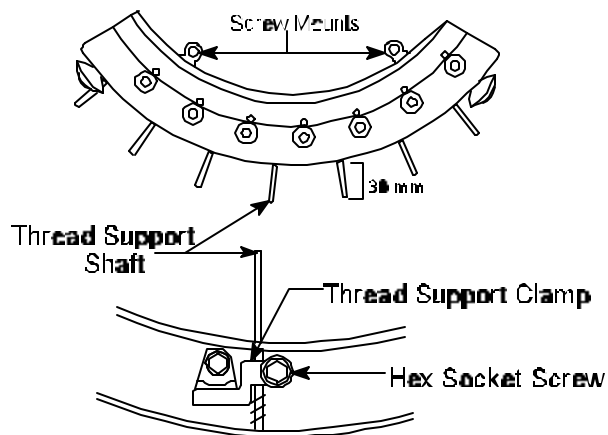

Figure 2
6. Using a 2.5 mm Allen Wrench, **loosen** seven Thread Support Clamp **hex socket screws**. See Figure 2.